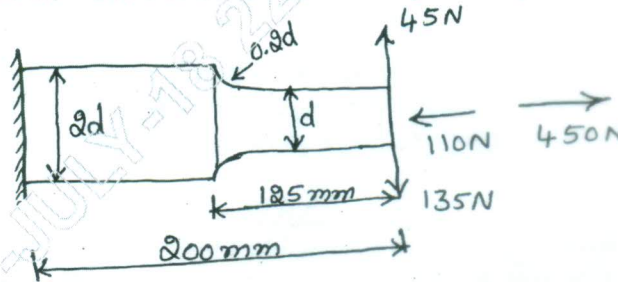

Fig.Q3(b)
- b. A steel cantilever member shown in Fig.Q3(b) is subjected to a transverse load at its end that varies from 45 N up to 135 N down as an axial load varies from 110 N compression to 450 N tension. Determine the required diameter at the change of section for infinite life using a factor of safety of 2. The strength properties of the material are $\sigma_u = 550$ MPa, $\sigma_y = 470$ MPa and $\sigma_{-1} = 275$ MPa. Notch sensitivity index $q = 1$.